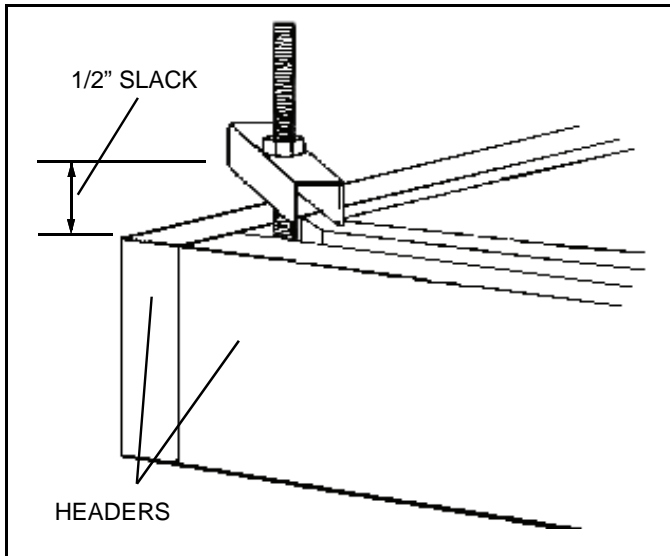

Figure 6
3. Starting at one end, slide a joist hanger onto the threaded rod and thread nut down until there is only about 1/2" slack. ***Do not tighten fully.*** Turn joist hanger at a 45 degree angle to span the frame corner. Figure 6. Repeat the process until all hangers are installed. With hangers holding stair in place, helpers can let go.